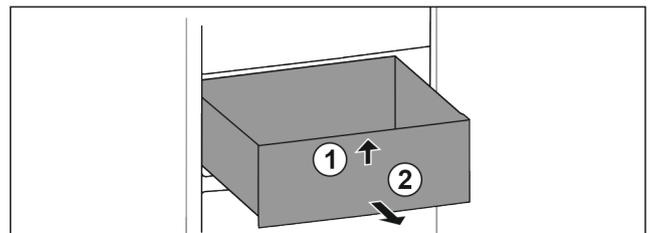

Fig. 16
- ▶ Lift at the front Fig. 16 (1).
- ▶ Take out to the front Fig. 16 (2).